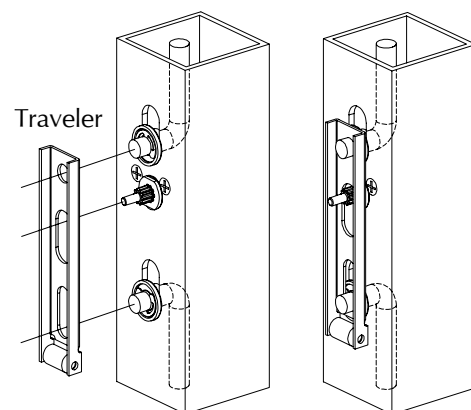

Figure 3-2
3.2. Install traveler over rod ends (Figure 3-2).